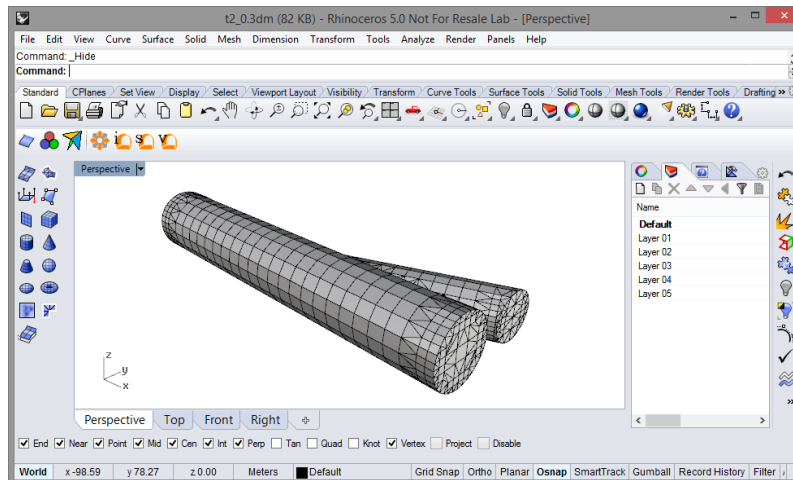

Figure 98: Tunnel meshes.
5. Select the mesh of the top of the box and type **_Hide**. Do the same for the other 5 box sides. Do not select or hide the circular mesh caps. All that should be remaining on your screen is the tunnel mesh with the end cap meshes as shown in Figure 98.